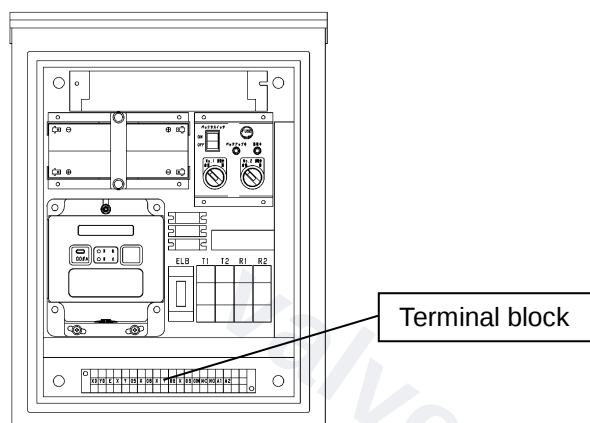

Figure 1
(1) Control panel terminal block (figure 1)